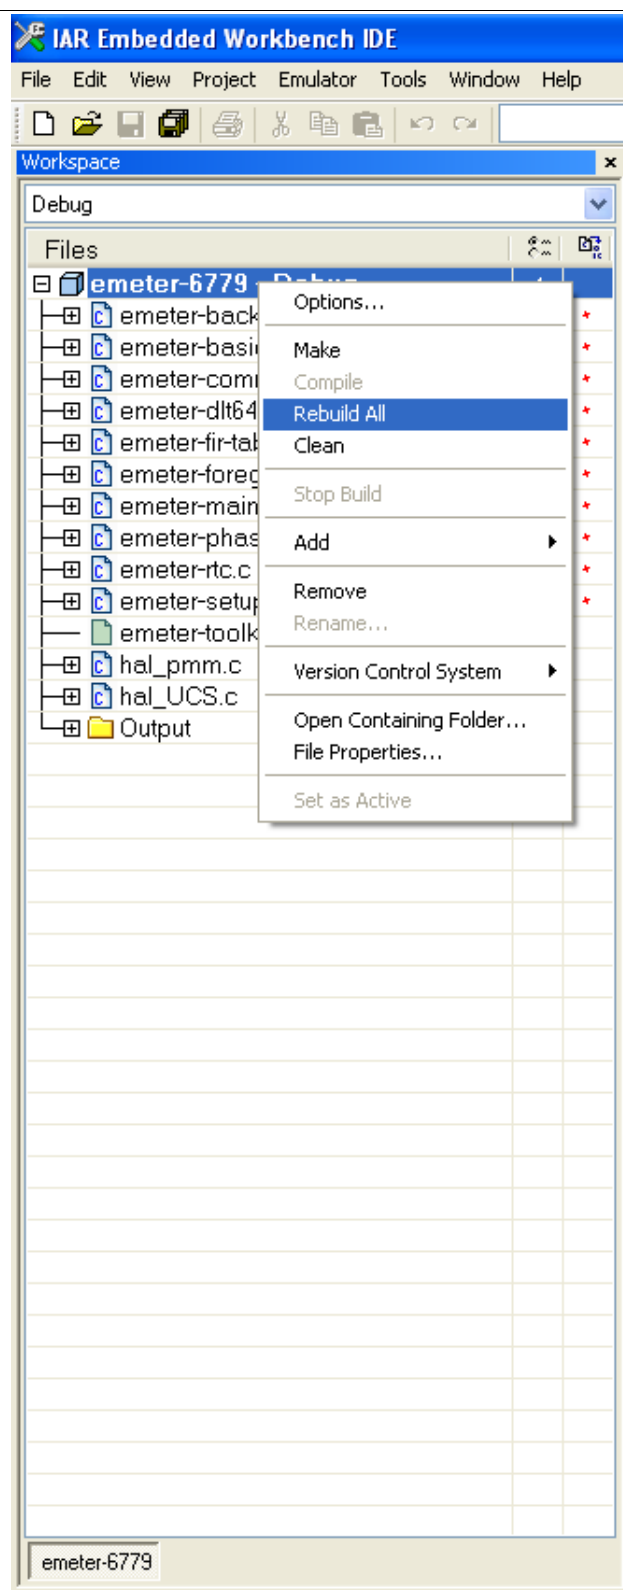

Figure 18. Metrology Project Build in IAR
5. Click rebuild All as shown in Figure 18 and load this project onto the MSP430F6779.